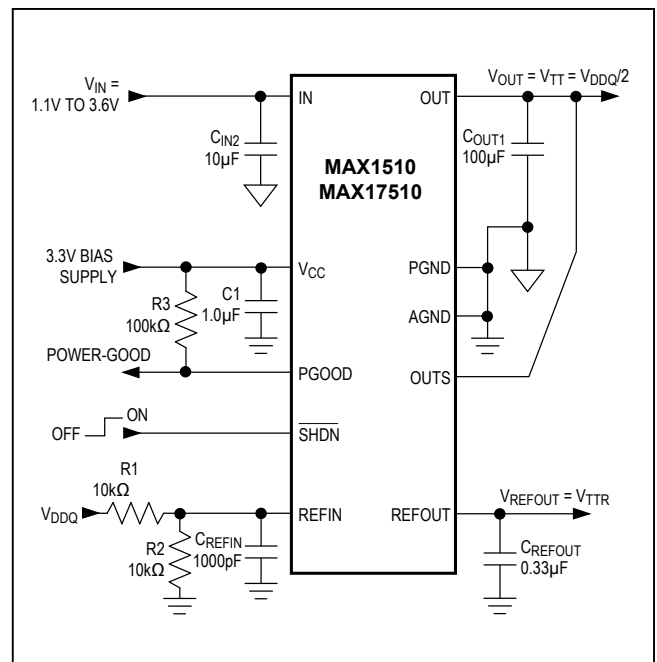

Figure 1. Standard Application Circuit
(VIN = 1.8V, VCC = 3.3V, VREFIN = VOUTS = 1.25V,  $\overline{\text{SHDN}}$  = VCC, circuit of Figure 1, TJ = TA = -40°C to +85°C for MAX1510ETB, TJ = TA = -40°C to +125°C for MAX17510ATB, unless otherwise noted. Typical values are at TA = +25°C.) (Note 1)
( $V_{IN} = 1.8V$ ,  $V_{CC} = 3.3V$ ,  $V_{REFIN} = V_{OUTS} = 1.25V$ ,  $\overline{SHDN} = V_{CC}$ , circuit of Figure 1,  $T_J = T_A = -40^\circ C$  to  $+85^\circ C$  for MAX1510ETB,  $T_J = T_A = -40^\circ C$  to  $+125^\circ C$  for MAX17510ATB, unless otherwise noted. Typical values are at  $T_A = +25^\circ C$ .) (Note 1)
(Circuit of Figure 1.  $T_A = +25^{\circ}\text{C}$ , unless otherwise noted.)
(Circuit of Figure 1.  $T_A = +25^\circ\text{C}$ , unless otherwise noted.)
The MAX1510/MAX17510 are low-voltage, low-dropout DDR termination linear regulators with an external bias supply input and a buffered reference output (see Figures 1 and 2). VCC is powered by a 2.7V to 3.6V supply that is commonly available in laptop and desktop computers. The 3.3V bias supply drives the gate of the internal pass transistor, while a lower voltage input at the drain of the transistor (IN) is regulated to provide VOUT. By using separate bias and power inputs, the MAX1510/MAX17510 can drive an n-channel high-side MOSFET and use a lower input voltage to provide better efficiency.
The MAX1510/MAX17510 regulate OUTS to the voltage set at REFIN, making the devices ideal for memory applications where the termination supply must track the supply voltage. Typically, REFIN is set by an external resistive voltage-divider connected to the memory supply (VDDQ) as shown in Figure 1. The maximum output voltage of 1.5V is limited by the gate-drive voltage of the internal n-channel power transistor.
| 6.1             |               | Corrected typos in <a href="#">Electrical Characteristics</a> table and <a href="#">Figure 1</a>  | 3, 10             |